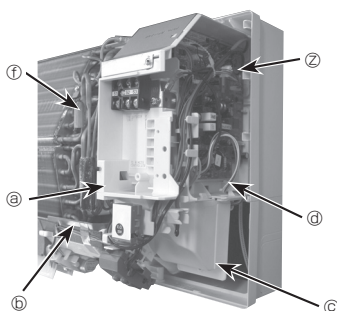
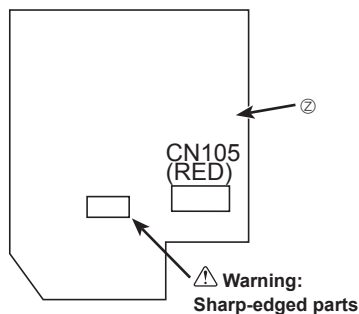

Fig. 6-5
Fig. 6-6
- ⑧ Remove the cable guide. (Fig. 6-5)
- ⑩ Remove the liquid pipe thermistor (TH2). (Fig. 6-5)
- ⑪ Tear off the tape partly of vane motor and loosen the cord. (Fig. 6-5)
- ⑫ Loosen the cord of the fan motor. (Fig. 6-5)
- ⑬ Pull out the electrical box toward you.
- ⑭ CN105 (RED) on indoor controller board. (Fig. 6-6)
- ⑮ Replace the removed parts.
- (R) Front grille
- (S) Screws
- (T) Screws and screw caps
- (U) Screw of the corner box
- (V) Hooks
- (W) Screw of electrical box cover (side)
- (X) Screw of electrical box cover (Front)
- (Y) Water cut
- (Z) Indoor controller board (I.B.)